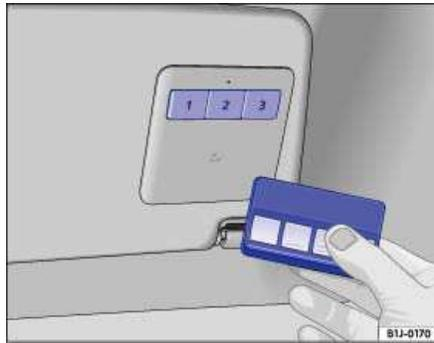

Fig. 41 In the driver side sun visor: The remote control and buttons for the HomeLink Universal Transmitter.
- 2.** Position the hand-held transmitter for your remote control device 1-3 inches (25-75 mm) away from the HomeLink keypad on the driver side sun visor, keeping the HomeLink indicator light in view, as shown ⇒ fig. 41.